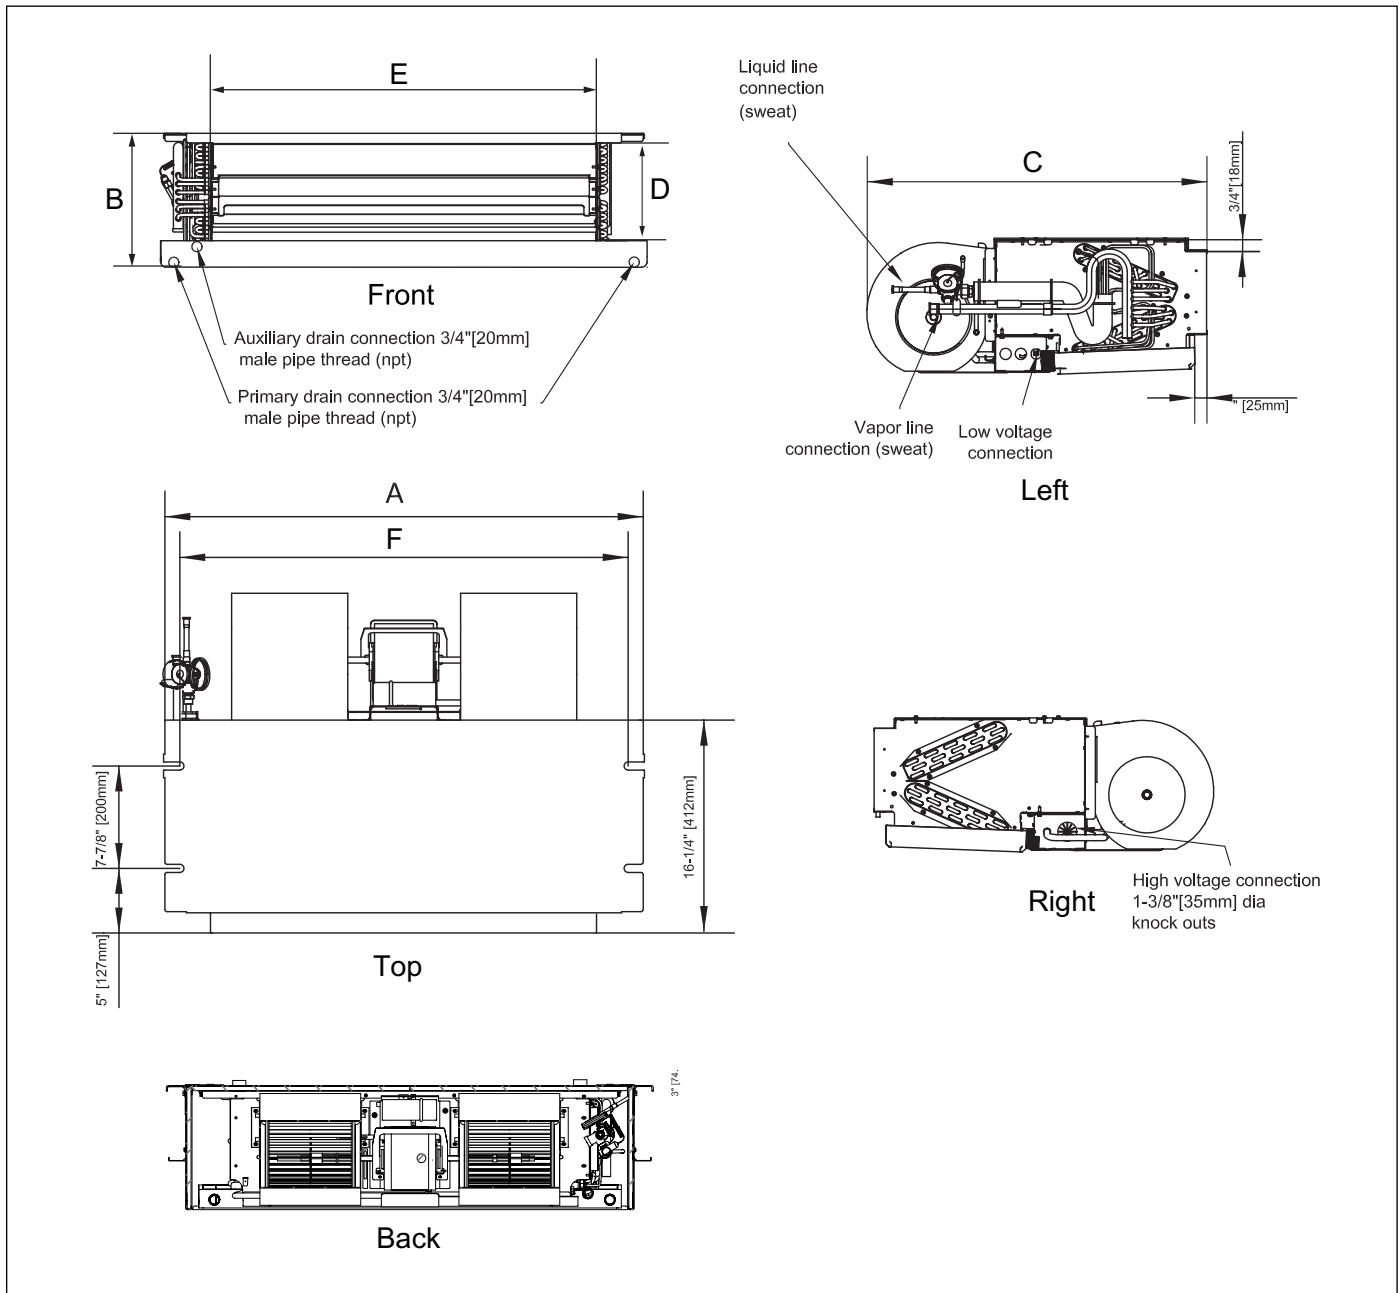

Figure 1 Uncased unit dimensions
- ▶ For low voltage wire connection location, see Figures 1 and 2.